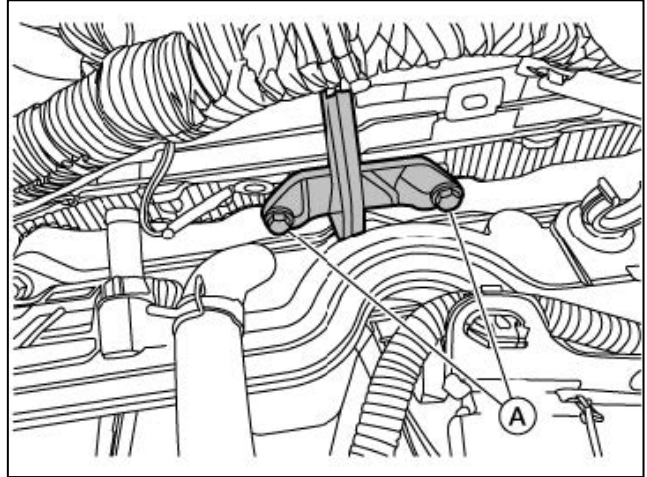
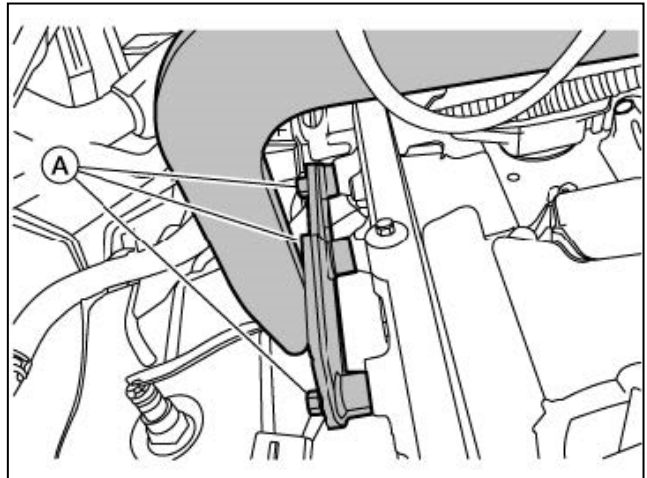

Figure 27
Figure 28
57. Using supplied bolts (A), install special tool NI-53377 to the front (Figure 27) and rear (Figure 28) of the cylinder head.
- Bolt (A) torque: 23 N•m (2.3 kg-m, **17 ft-lb**)